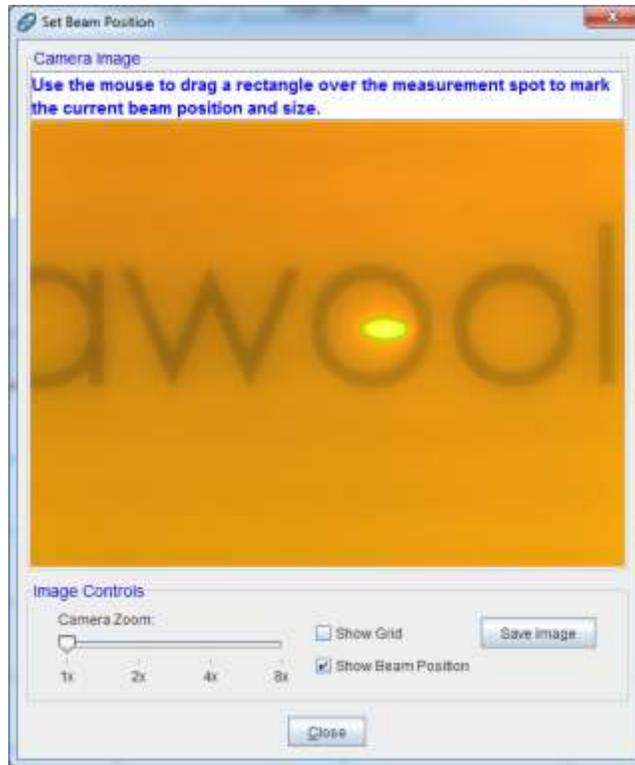

Figure 6-7. Mark Beam Position.
3. Click "Mark Beam Position" to open the dialog box shown in Figure 6-7. Follow the instructions in blue: Use the mouse to drag a rectangle over the measurement spot to mark the current beam position and size. This process can be repeated as many times as necessary. When finished, click 'Close', and the software will recall this marked location.